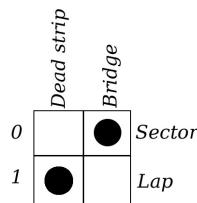

Figure 33: Ds bridge sector sensor, dead strip lap counter sensor.
In order that the *Track Interface* interprets the DS bridge as sector sensor and the dead strip as lap counter sensor, the double switch (5) must be set as shown in figure 33.